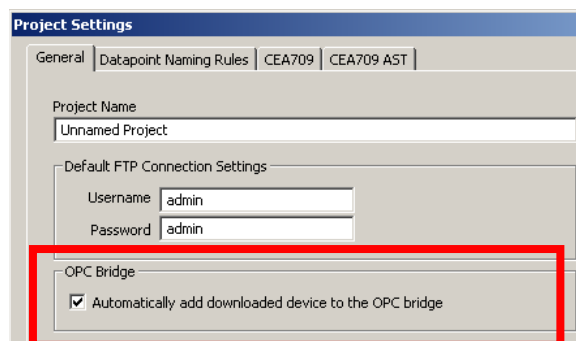

Figure 161: Enable bridge export in the project settings.
2. In the Configurator menu go to **Settings** → **Project settings** This opens the project settings dialog on the tab **General** as shown in Figure 161.